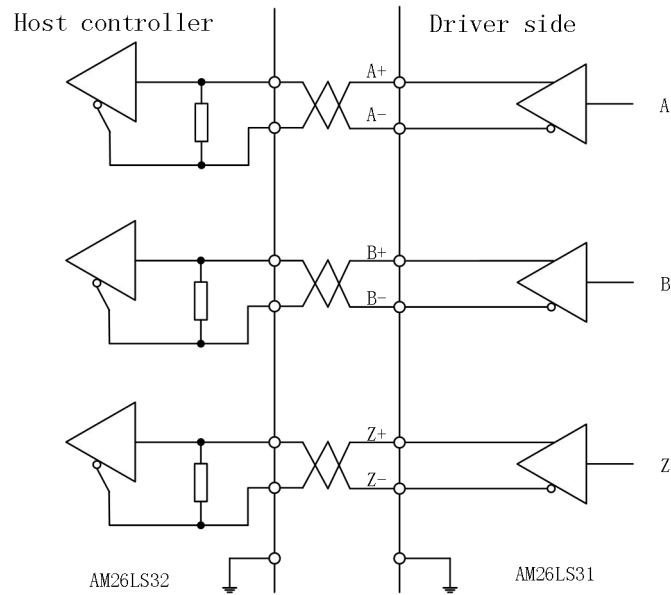

Fig. 2-10a: Type5 Output Signal of Photoelectric Encoder
4. The output is not isolated, as shown in Fig. 2-10a.